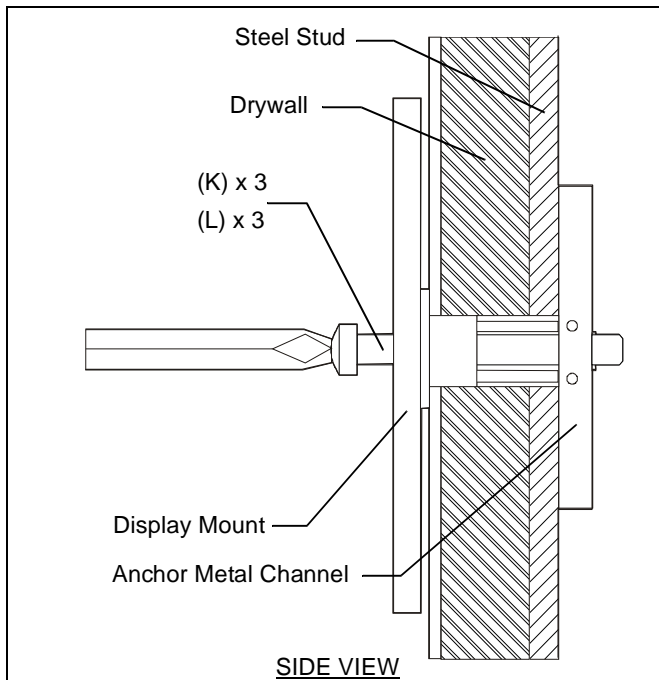

Figure 8
11. Place mount over anchors and align mounting holes in display mount with holes in anchors. (See Figure 8)
12. Place flat washer (K) onto button head capscrew (L).
13. Insert Phillips pan head capscrews (L) with flat washer (K) through mounting hole in display mount and into anchor (M) and tighten until flush against mount. DO NOT overtighten!